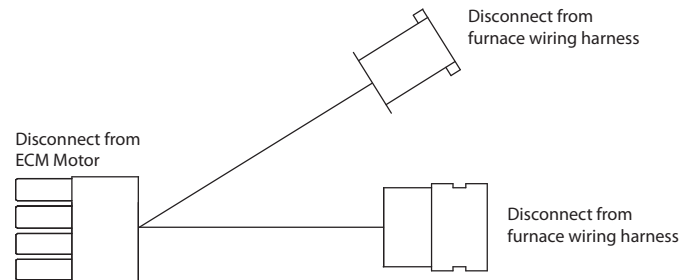

Fig. 3 – ECM Adapter Harness
2. Remove the wires that connect the main wiring harness to the inducer motor harness. On furnace using an old style ECM inducer, remove the adapter harness between the inducer motor and main furnace wiring harness and discard, see Fig. 1 and Fig. 3.
On Variable Speed furnaces with old style ECM inducers, verify adapter harness has been removed before connecting harness to new ECM motor, see Fig. 3. Otherwise, connect furnace wiring harness directly to motor.